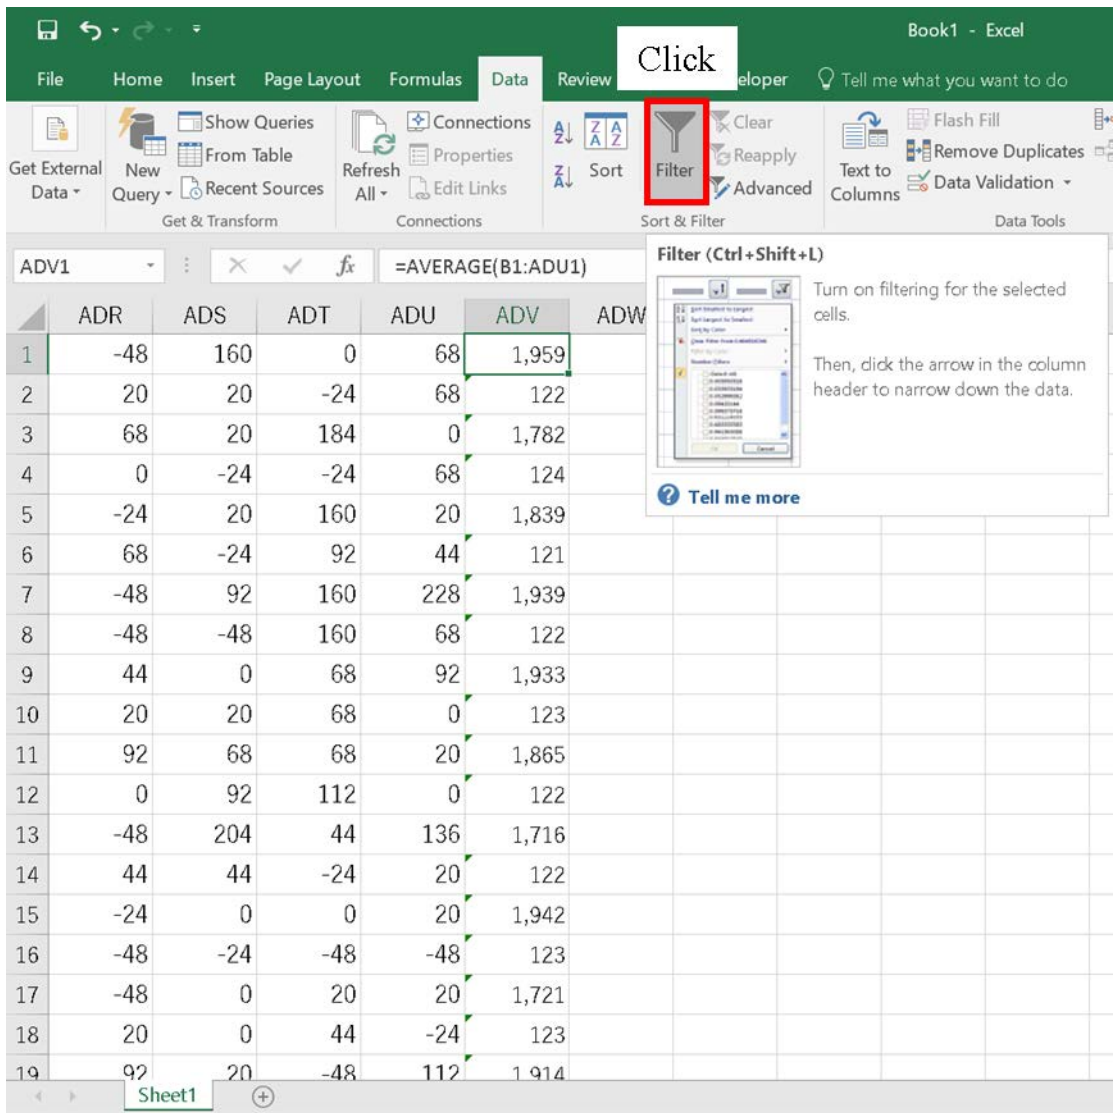

Figure 20. Activation of the “Filter” tool.
- 4) Select cell ADV1 and click “Data” > “Filter” of the upper menu (Figure 20).